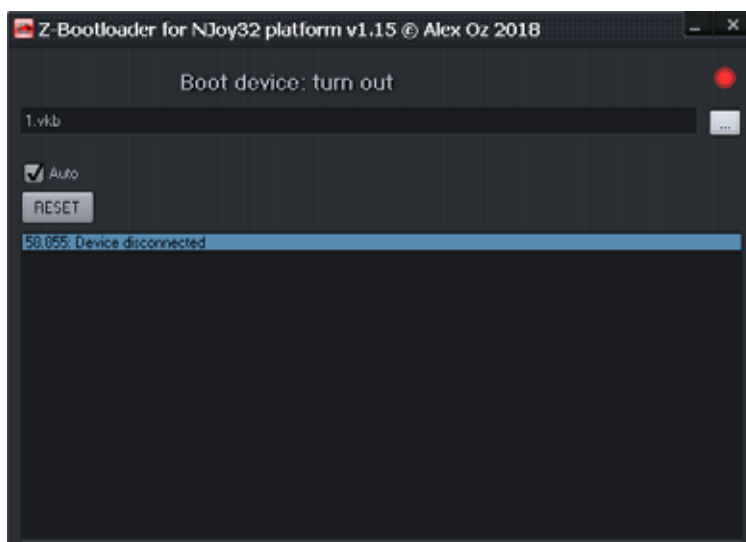

Fig. 2.6.
2. Run ZBootloader.exe. You will see that device is turned out (Fig. 2.6).